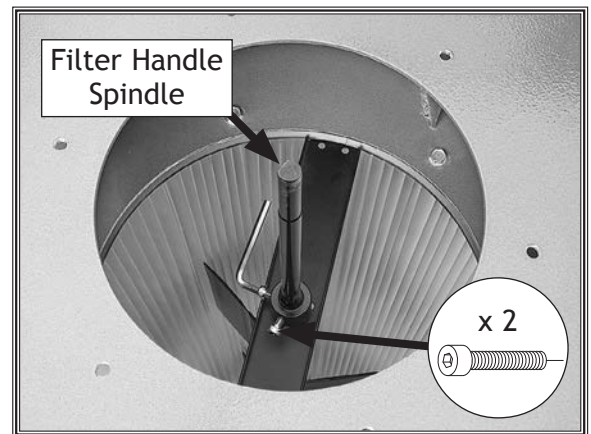

Figure 25. Filter handle spindle attached to canister filter assembly.
26. Insert filter handle spindle so one of two M6-1 x 16 cap screw tips aligns with flat on side of filter paddle spindle, then tighten both cap screws to secure spindle (see **Figure 25**).